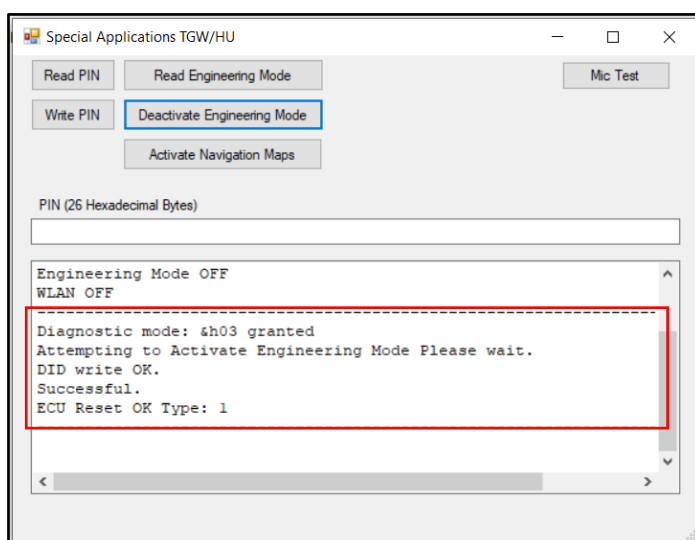

Figure 7
13. Check Engineering mode is active (refer to Figure 7).